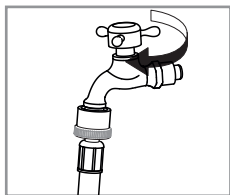

Fig.19
- Turn off the water tap. (Fig.19)